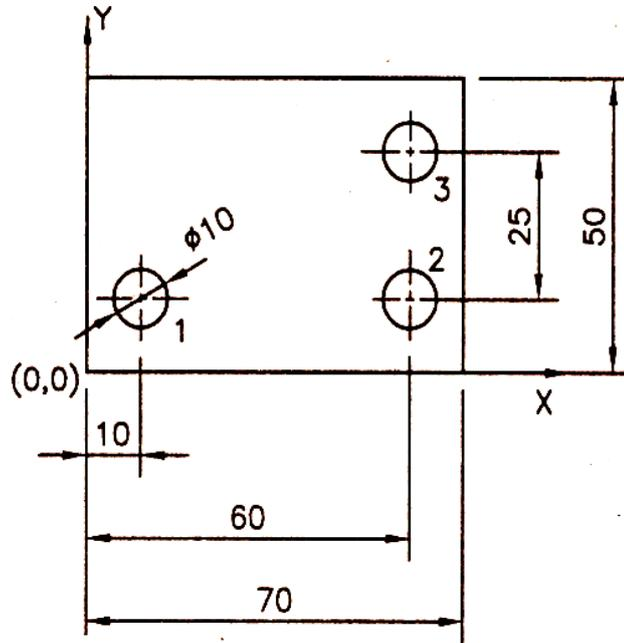

Figure-1
- (c) Write a part program using ISO format and subroutines to generate three holes in the component shown in figure-1, thickness of component be 5 mm. ૦૭